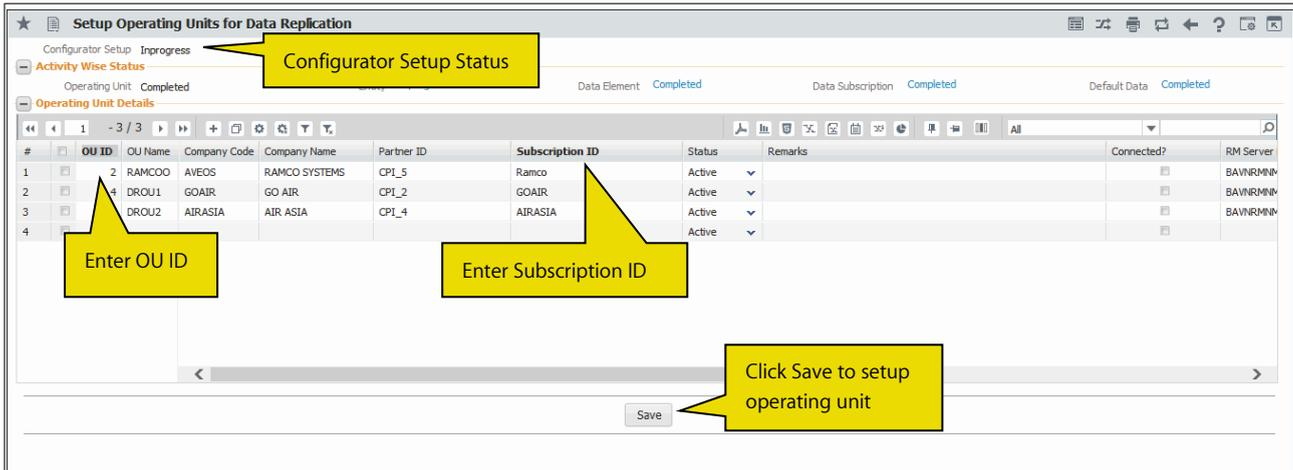

Figure 2.2 Setting operating units for data replication
1. Select the Setup Operating Units for Data Replication activity under the Central Data Replication Configurator business component. The **Setup Operating Units for Data Replication** page appears. See *Figure 2.2*.